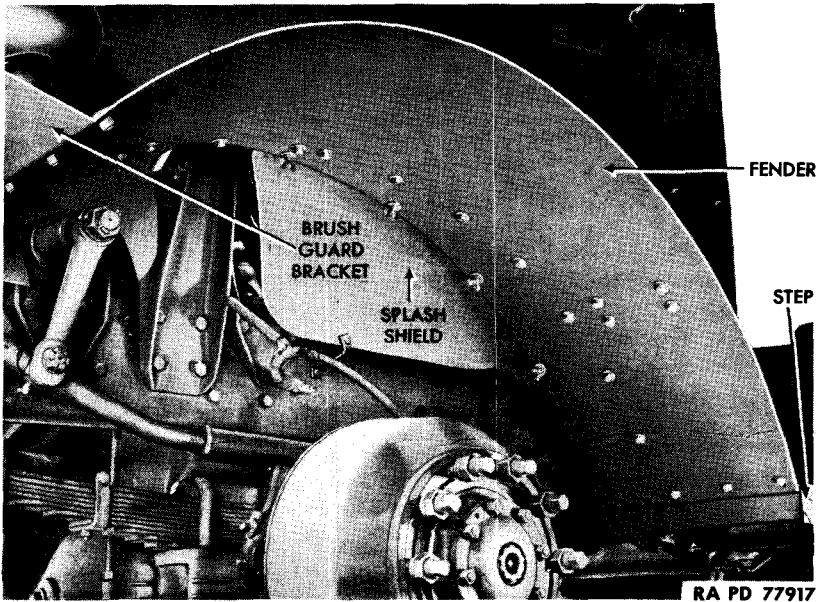

Figure 95 – Fender Installed
a. **Description** (fig. 95). The front fenders are attached to cowl and cab above front wheels, to steps at rear, and to brush guard bracket at front. Rear quarter fenders are attached to fender cross supports in front of rear wheels.